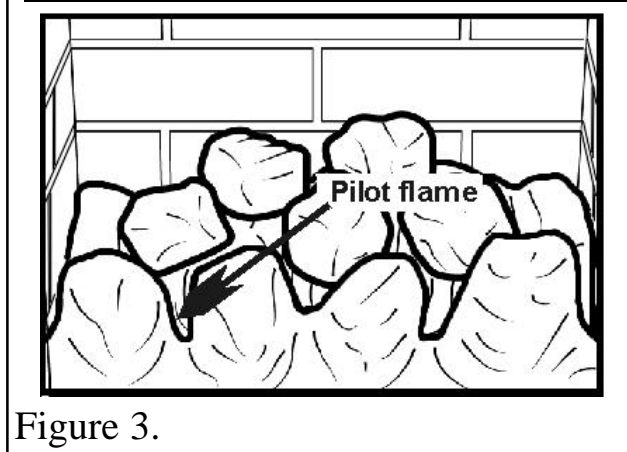

Figure 3.
- Push in the right control knob (the pilot lighting knob) and, while keeping it depressed, turn anticlockwise through the ignition position marked  and up to the pilot position marked . The spark should light the pilot. The pilot flame can be seen by looking through the gap between the coals near the front left corner of the fire bed (See figure 3).